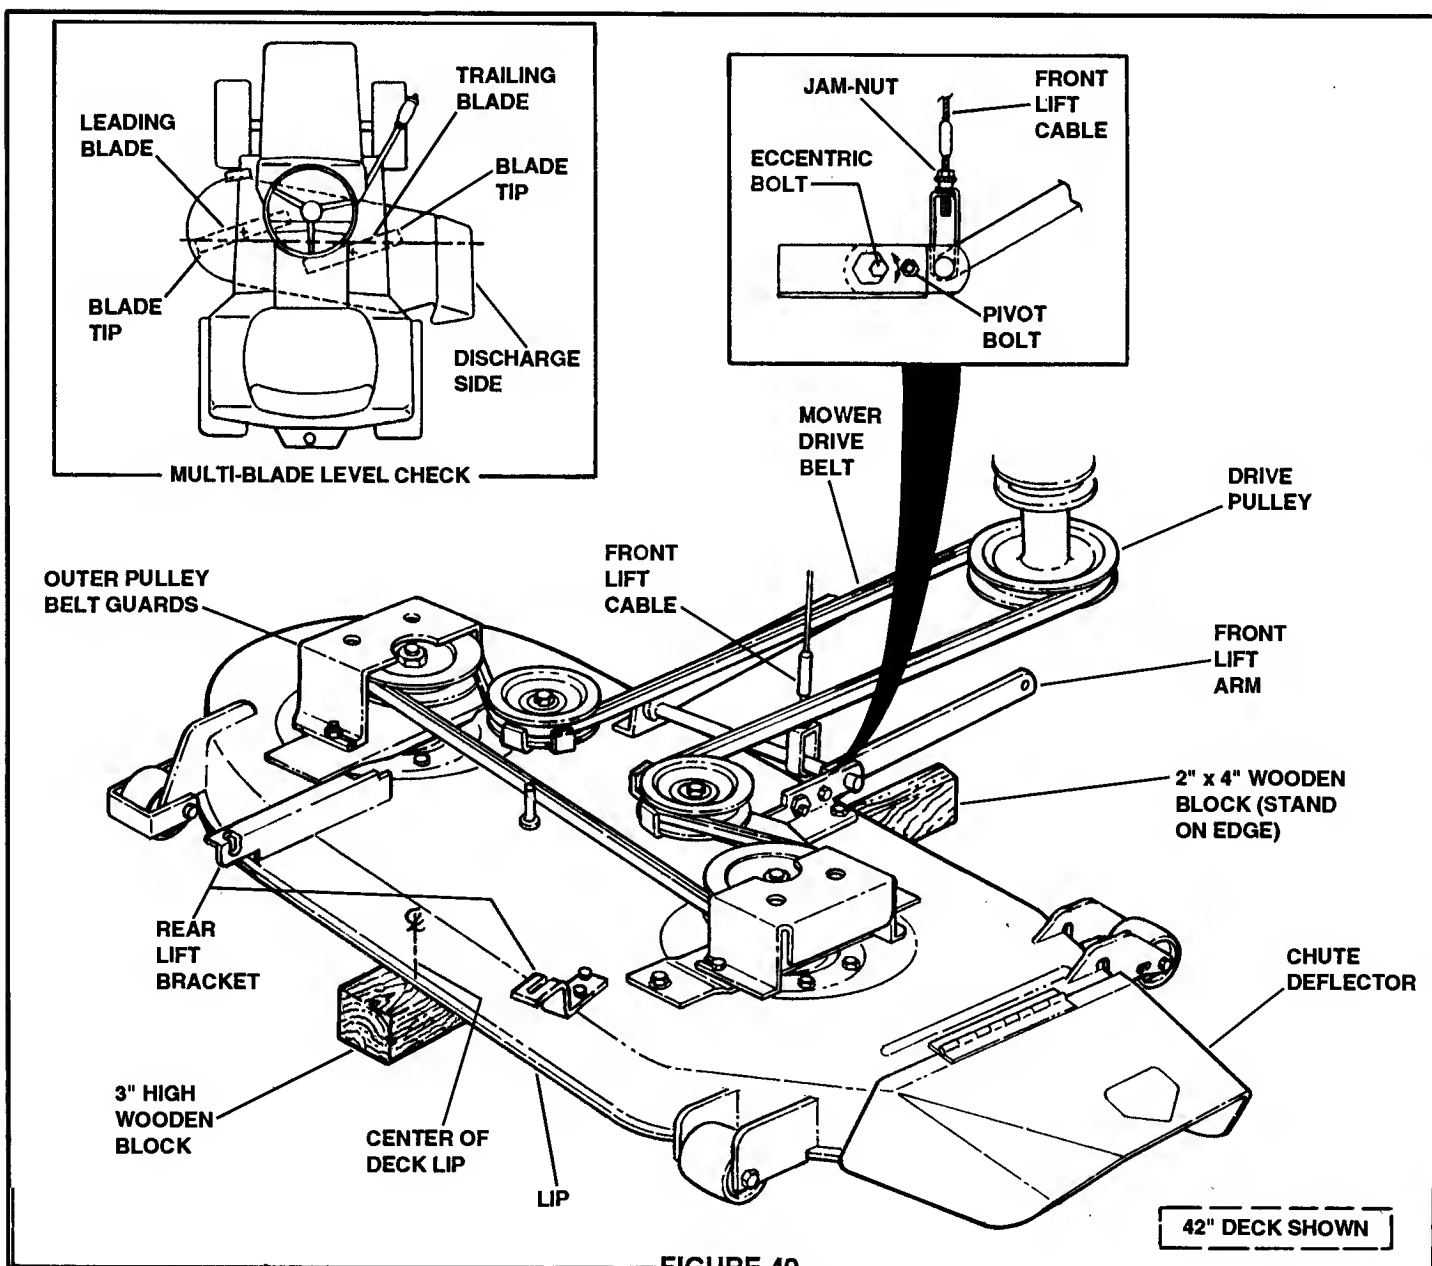

FIGURE 49
4. Place a 2 x 4" block on edge under the front lip of the deck in the exact center between the front lift arms. See Figure 49.
5. Loosen the jam nut on the front lift cable and adjust until the front lip of the deck rests on the 2 x 4 block and the cable is tight. Tighten the cable jam nut and remove the block. See inset, See Figure 49.